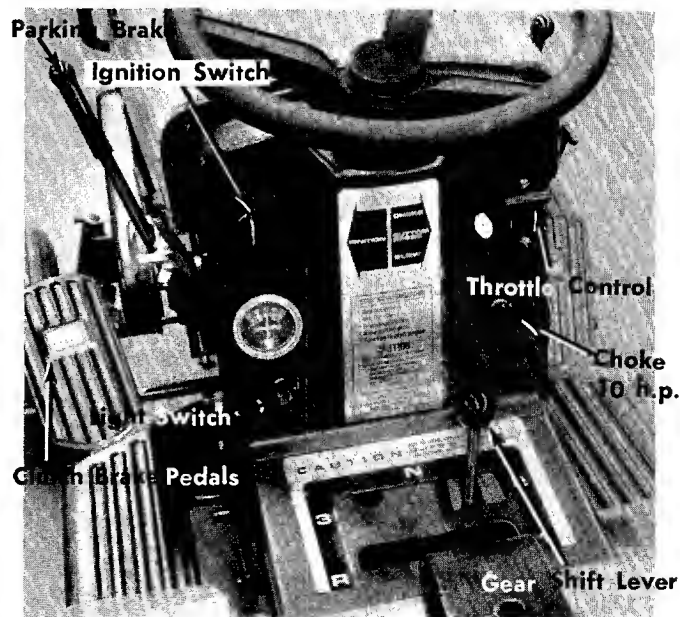

FIGURE 15. CONTROLS
e. **Clutch-Brake Pedals.** Depress both of them all the way down to stop or shift gears. Release pedals slowly to engage. See figures 15. and 17.
- Step 2. With the machine set on level ground place the gear shift lever in NEUTRAL (N) position. See figure 15.
- Step 4. Depress the clutch brake pedals all the way down. See figures 15 and 17.
- Step 6. Turn the ignition key to the right to START position to start the engine. Allow the key to return to the ON position. See figure 15.
To stop the rider from moving forward or backward, depress the clutch-brake pedals. See figure 15.